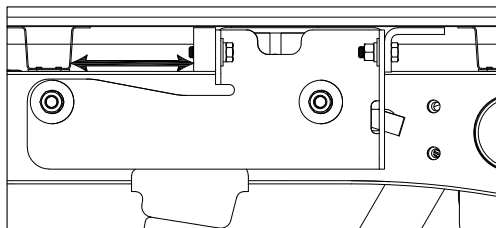

Figure D1: Passenger side of truck frame inside the wheel well.
2. **Square the hitch.** With a tape measure, check the distance between the Turnoverball hitch and the nearest bed cross member. The distance between the hitch and the cross member should be consistent on the passenger side and the driver side of the hitch, see Figure D1. Adjust hitch until the hitch and the bed cross member are the same from side to side.